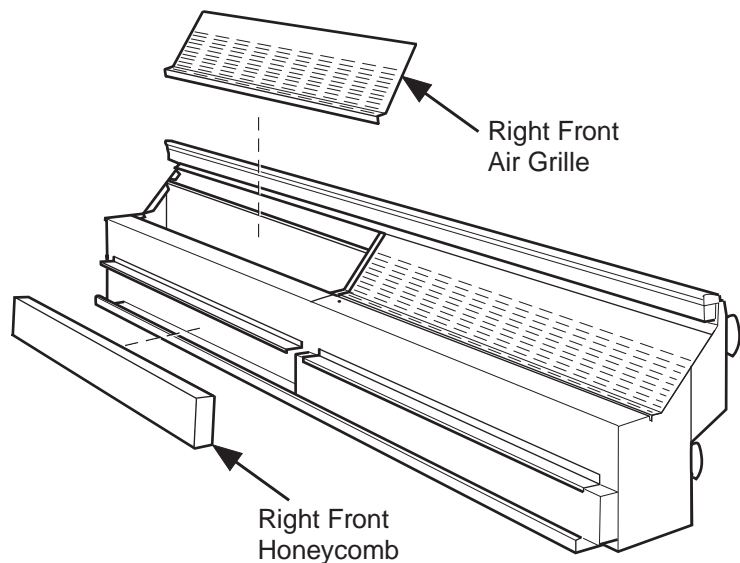

Figure 1. Remove Air Grille and Honeycomb
- 1 Remove front air grille and honeycomb from the right end as shown in Figure 1.